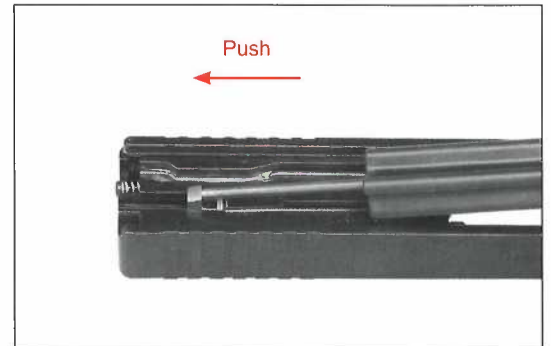

Fig. 198
- Remove the firing pin assembly by lifting upwards on the spacer sleeve or firing pin lug. (Fig. 198/199)